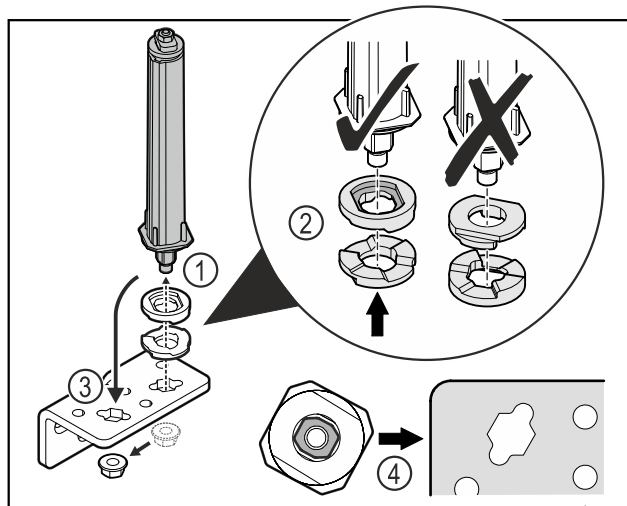

Fig. 16
- Loosen the nut and remove the door closing system *Fig. 16 (1)*.
- Observe the correct alignment of the height adjustment washers *Fig. 16 (2)*.
- Put the door closing system in the hinge and fix in place with the nut *Fig. 16 (3)*.
- Observe the correct alignment of the door closing system when doing so *Fig. 16 (4)*.